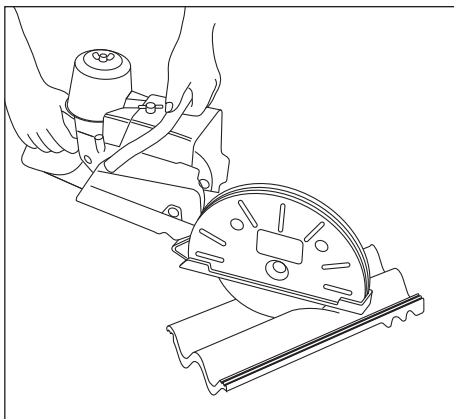

Fig. 17 – Use a disc cutter for mitring or cutting tiles to rake
- 2 Tiles cut to rake or mitre in open details, e.g. valleys, external angles, should be trimmed with a disc cutter (Fig. 17) to ensure a neat finish.